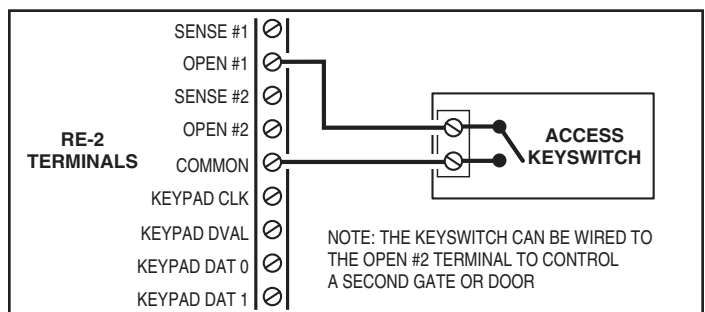

Figure 23. Keyswitch Wiring
4. Connect one keyswitch wire to the RE-2 **OPEN #1** terminal. Connect the other keyswitch wire to the RE-2 **COMMON** terminal (see Figure 23).